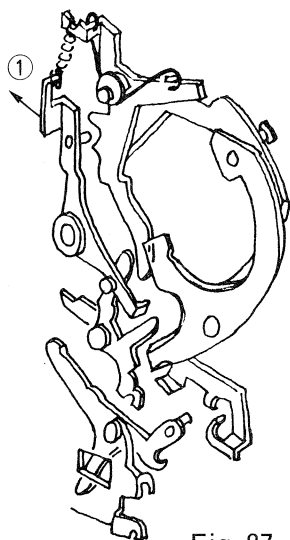
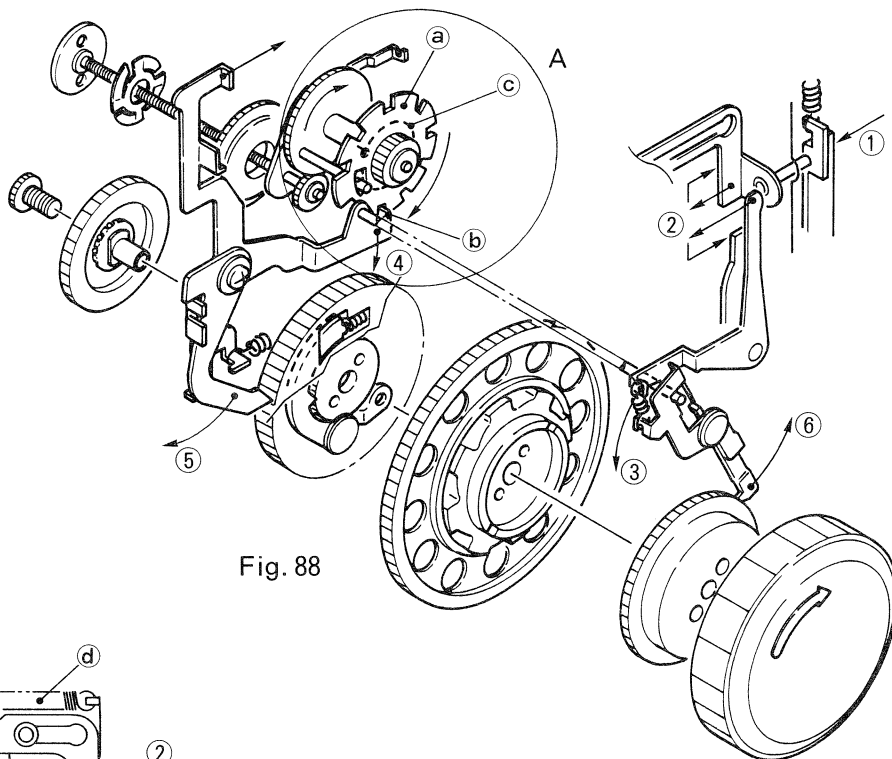

Fig. 87
Fig. 88
3. When the shutter is released, the camera body side ① (Fig. 87) pushes signal pin ② at the holder side (Fig. 88), and ③ ④ ⑤ ⑥ are moved in the arrow direction, whereby the tip ⑥ is disengaged by ⑤ dividing device slit, and at the same time, the dividing device ⑤ moves in the clockwise direction by means of ④ spring action, ready for the next film advance. (Fig. A) On the other hand, for signal pin ② (Fig. 89), the lever ④ is actuated, thus operating spring ⑤, whereby the holder side wind-up stop release is transmitted to the camera body side.